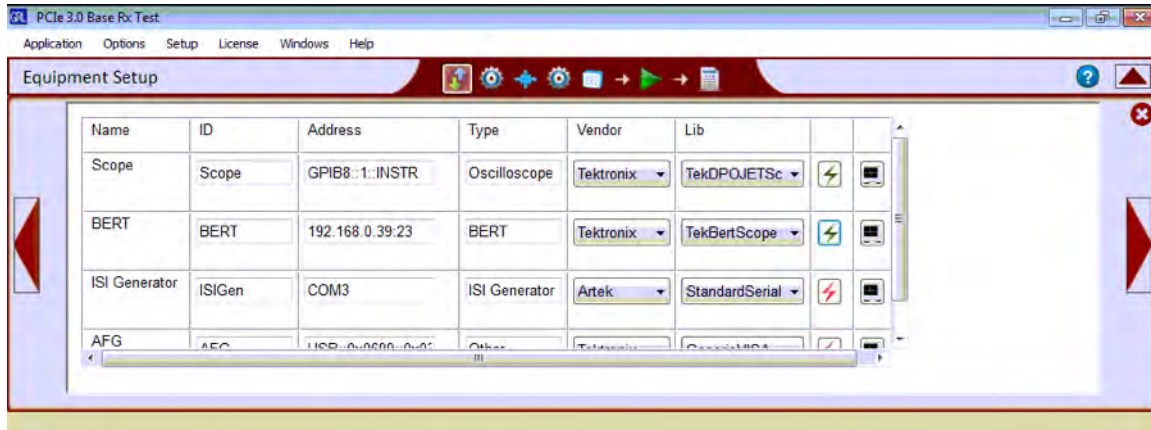

FIGURE 11. EQUIPMENT SETUP WINDOW – VIEW #3
12. Do this for each instrument that that will be used, as shown in Figure 11.